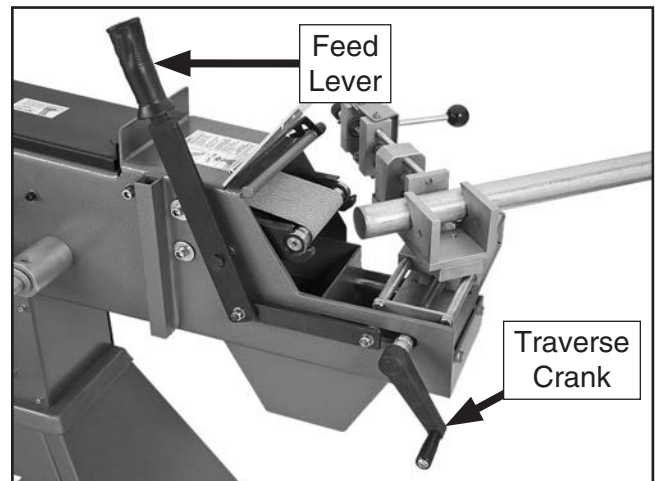

Figure 32. Feed and traverse controls.
16. Use feed lever (see **Figure 32**) to bring tube in light contact with abrasive belt as you use rotate traverse crank to move tube across abrasive belt.